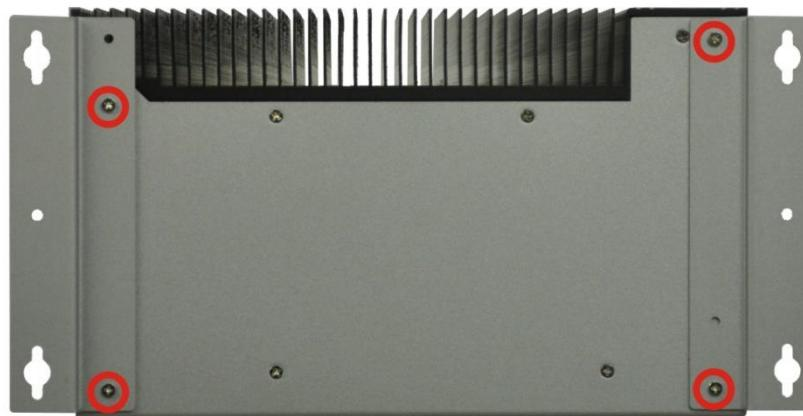

Figure 3-6: Mounting Bracket Retention Screws
Step 2: Align the two retention screw holes in each bracket with the corresponding retention screw holes on the bottom surface or the left side panel (**Figure 3-6**).
Step 3: Secure the brackets to the system by inserting two retention screws into each bracket (**Figure 3-6**).